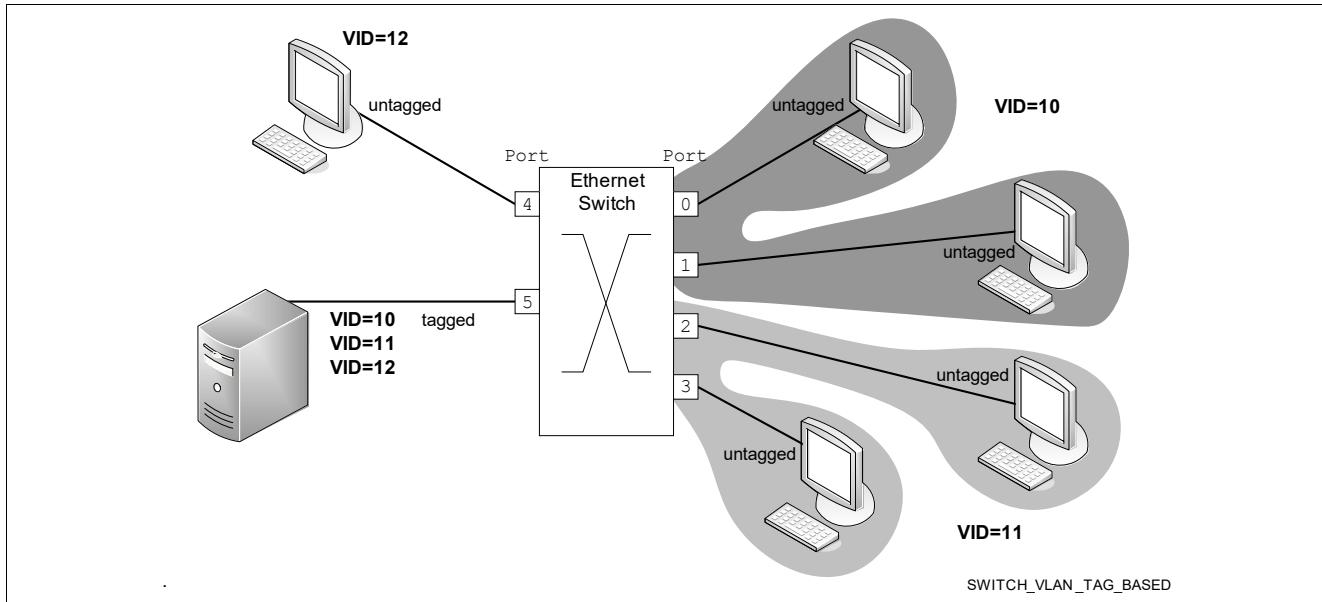

Figure 32 Tag-based VLAN Example
**Figure 32** shows an example where six LAN stations are connected to a single 6-port switch device. Three VLAN groups are added to the active VLAN set. Port 0 and port 1 are members of the port-based VLAN group with VID = 10, port 2 and port 3 are members of the port-based VLAN group with VID = 11. Port 4 is member of the port-based VLAN group with VID = 12. Port 5 is connected to a server and may transmit and receive tagged VLAN packets of any of the defined groups.